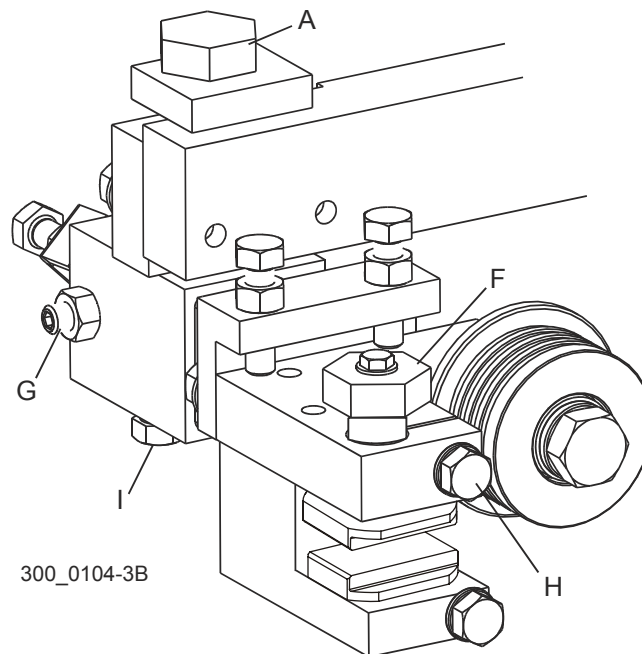

FIG. 3-30
See Figure 3-30. Standard Roller/Block Guides: Move the guide assembly forward until the roller flange is 1/16"-1/8" from the back edge of the blade and tighten clamp bolts (G) and (I). Turn blade guide assembly bolt (A) clockwise to raise the bottom guide block up until it touches the blade, but does not deflect it upward. Turn top guide block bolt (F) clockwise to move top block down until it touches the blade, then back 1/4 turn. Tighten clamp bolt (H). Repeat for other blade guide assembly.